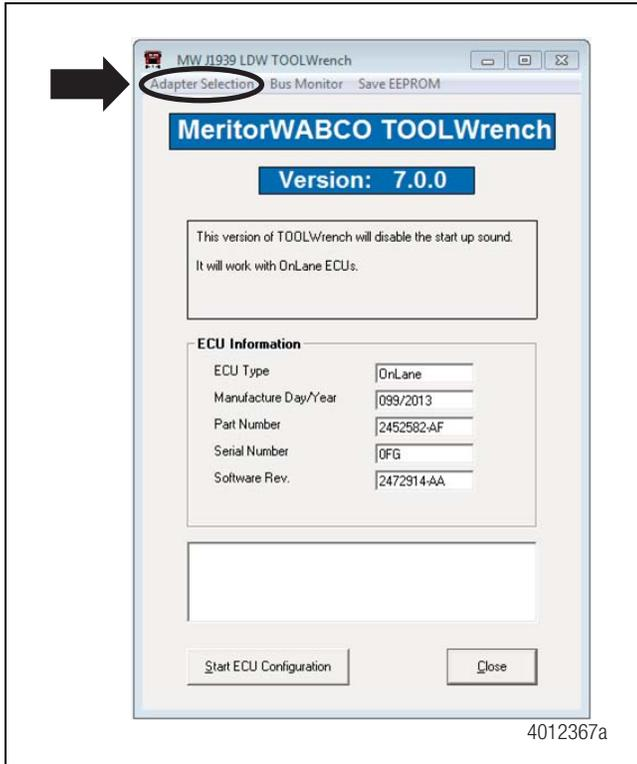

Figure 1
- When running this software, verify you are using the correct device and protocol. If you are not sure, use the selection screen for Diagnostic Interfaces by selecting the Adapter Selection menu in the top toolbar of the TOOLwrench application. Figure 1.